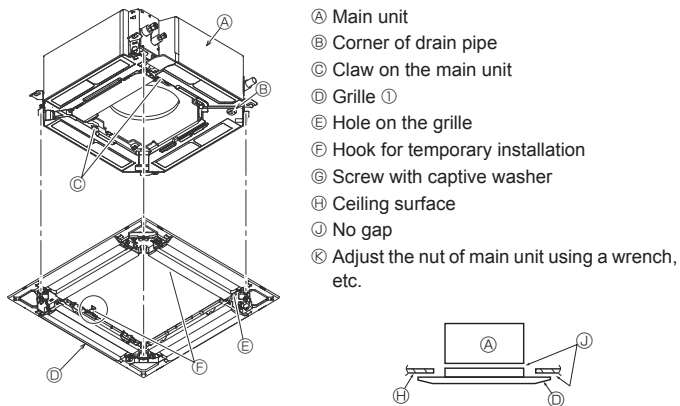

Fig. 6
4.2. Temporary installation of the grille (Fig. 6)
- By tightening the pre-installed screws, fix the grille onto the main unit. (Fig. 6)
- **After tightening the screw, confirm that the two grille hooks (Fig. 6) are latched onto the hooks on the main unit.**